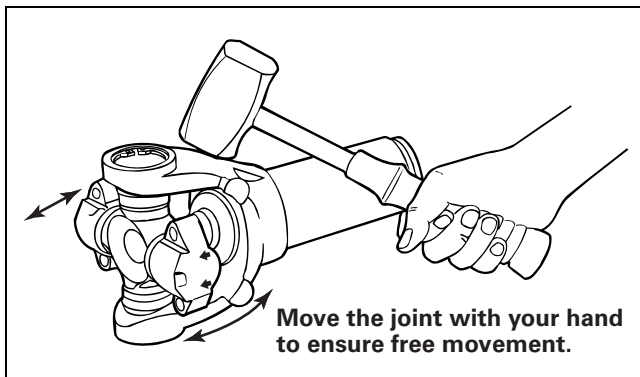

Figure 4.39
10. Strike the yoke ear with a brass or copper hammer to ensure that the universal joint moves freely. Figure 4.39.